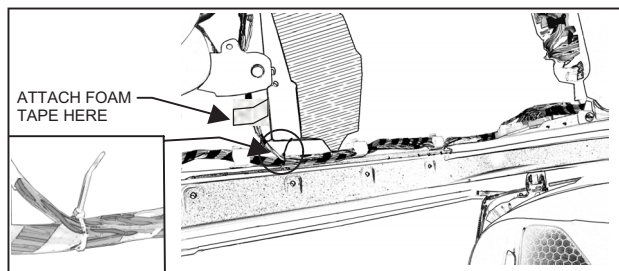

Figure E1
2. Route wire harness along same path as seat harness under the carpet until you get to scuff plate. Then route wire harness, using wire tie to fix bend, under the scuff plate on the outside of vehicle, use the existing clips to secure the wire harness along the scuff plate. (Figure E1).
- ➡ 5. Secure the wire harness using one foam tape and one wire tie as indicated in Figure E1.